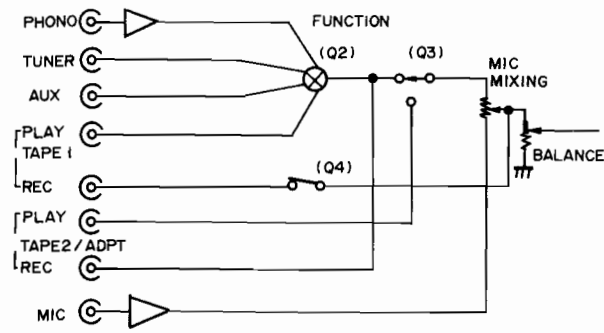
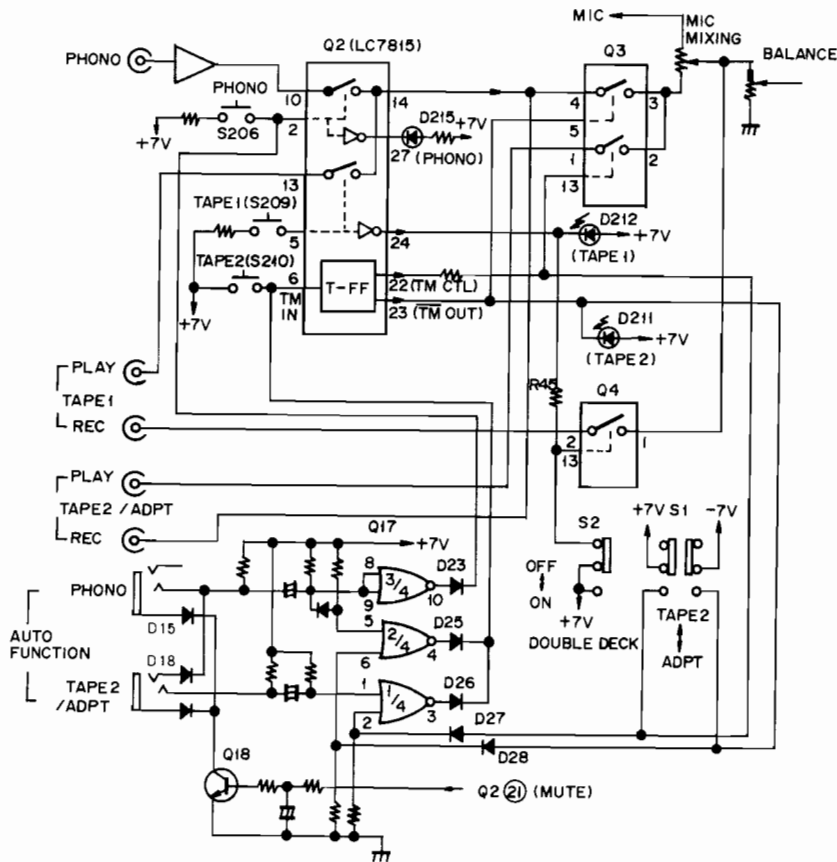

Fig. 8-4 Function Block Diagram
Fig. 8-6 Function Switching
Function selection is summarized in Fig. 8-4 and Fig. 8-6. PHONO, TUNER, AUX, and TAPE1 are switched by Q2 (LC7815). The Q3 analog switch is equivalent to a tape monitor switch for TAPE2, and is used in control of the tape monitor function. The Q4 analog switch is equivalent to the TAPE1 tape monitor switch, and is activated during recording mode.
**Manual Operation (see Fig. 8-6)**
■ TAPE 2 switch (S210) operation (see Fig. 8-6)
■ TAPE 2/ADPT switch set to "ADPT" position (see Fig. 8-6)